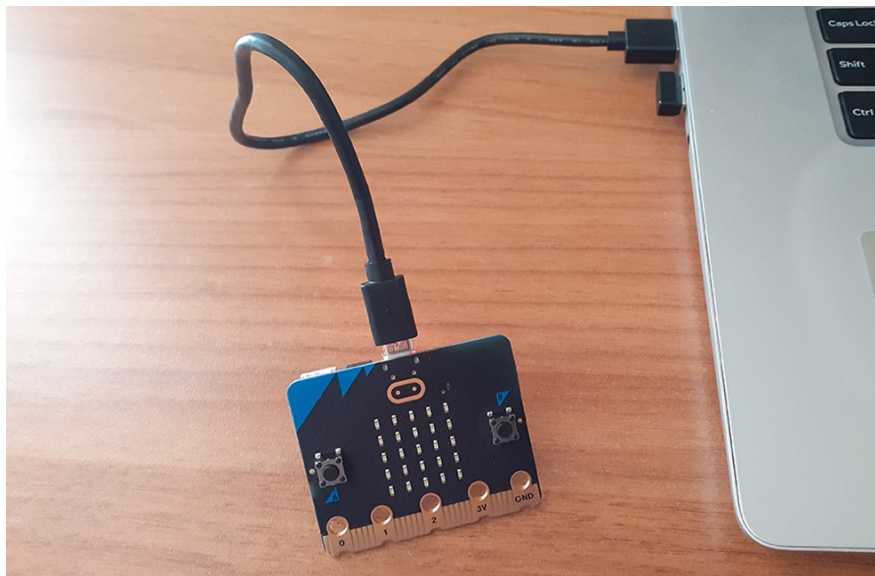

Figure 20: Connecting the micro:bit board to a computer using a USB cable
To download a project or a code/script to the micro:bit you need to connect the micro:bit board to your computer using a USB cable (Figure 20) and then click the “download” button [Figure 5, (4)] in the Makecode software.